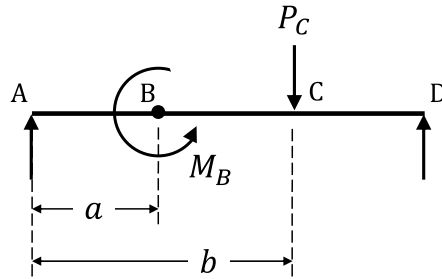

Fig. Q4
4. Fig. Q4 shows a beam which is simply supported at positions A and D and has an applied point moment, M_B , and an applied point load, P_C , at positions B and C, respectively. Using Macauley's method and taking the origin at position A of the beam, which of the following expresses the 2nd order differential equation for this beam?
5. What is the corresponding expression for deflection in the beam in Fig. Q4?